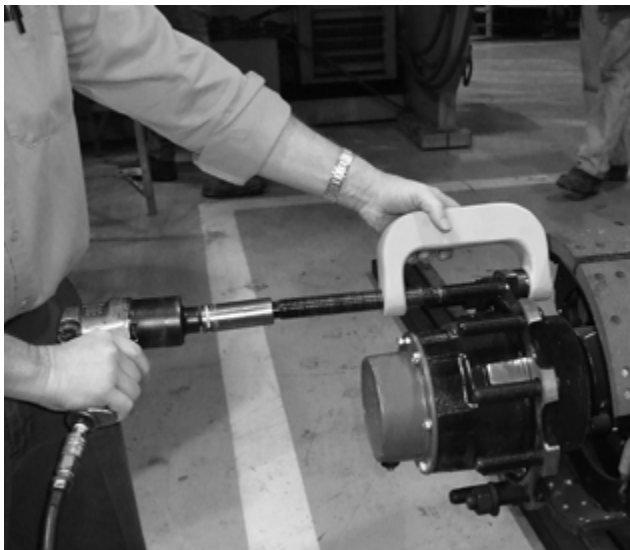

Figure 4: Extracting studs
1. Use a stud remover (Figure 4) to **extract** all marked stud(s).